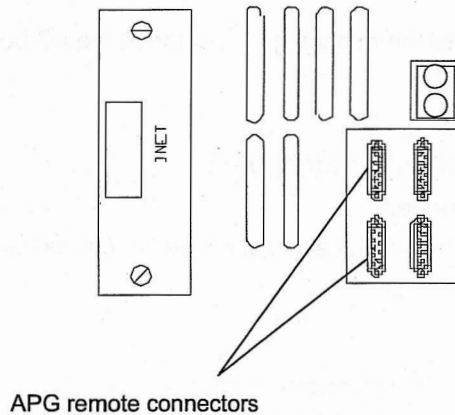

Figure 6 Connecting the Cable to the GC
1. Referring to Figure 6 below, locate the two APG remote connectors on the back of the GC. The APG Connectors are near the optional MIO INET™ card.